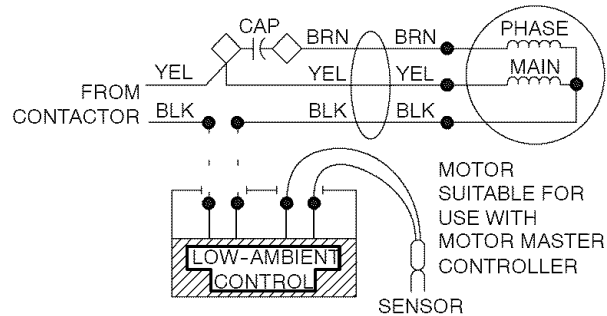

Fig. 7 - Power Wiring for 208-v, 230-v, and 460-v Condensing Units
MotorMaster® must be wired in series with fan motor. (See Fig. 7.) Power wiring must comply with all local codes and NEC requirements.
4. Bypass MotorMaster® by connecting black wire from unit contactor directly to black fan motor lead. (See Fig. 7 or 8 and unit wiring label.)